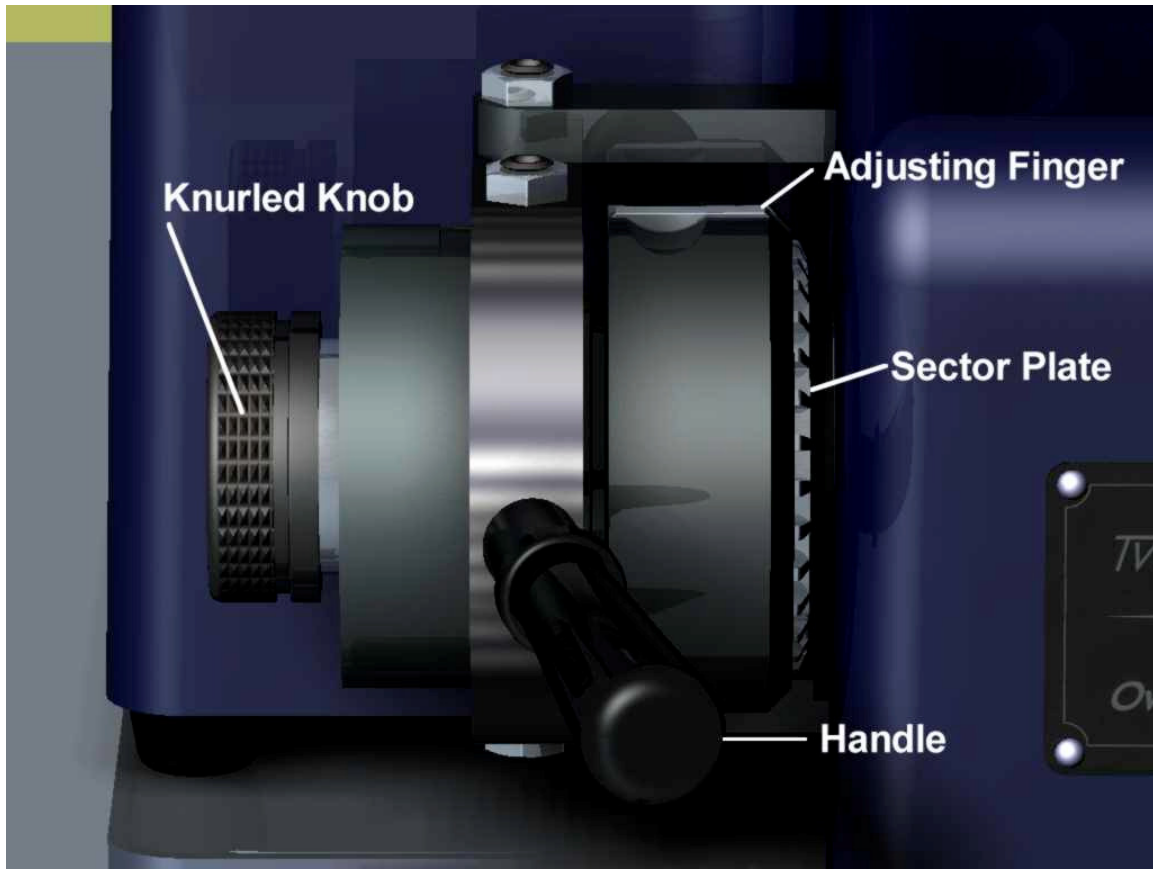

FIGURE 5
- b) Insert the Collet into the spindle and rotate the collet to align its keyway with the spindle key. **COLLET AND SPINDLE BORE MUST BE CLEAN!** Slide the closer handle (Fig. 5) to the right.
- c) Release the adjusting finger (Fig. 5) by pressing it down into the collet closer depression.
- d) With your left hand rotate the knurled knob (Fig. 5) clockwise while pressing inward to engage the collet threads. Use your right hand to prevent the collet from getting pushed out of the spindle. Thread on two (2) turns only.
- e) Insert a workpiece into the collet and push the closer handle to the left. Then continue rotating the knurled drawtube clockwise until it gets snug. Should the spindle begin to rotate, push and hold the spindle lock (Fig. 5.) It will engage in the spindle to prevent rotation.
- f) Move the closer handle all the way to the right and rotate the collet closer clockwise two to four more notches on the sector plate (Fig. 5). Check that the collet is gripping the workpiece with the desired firmness by moving the closer handle to the left.